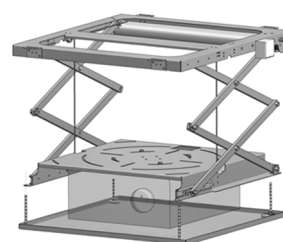

Fig. 6
6. Attach the masking panel to the lift. Position the 4 pins in the openings on the base of the lift and tighten the bolts as shown on the image below (Fig. 6)